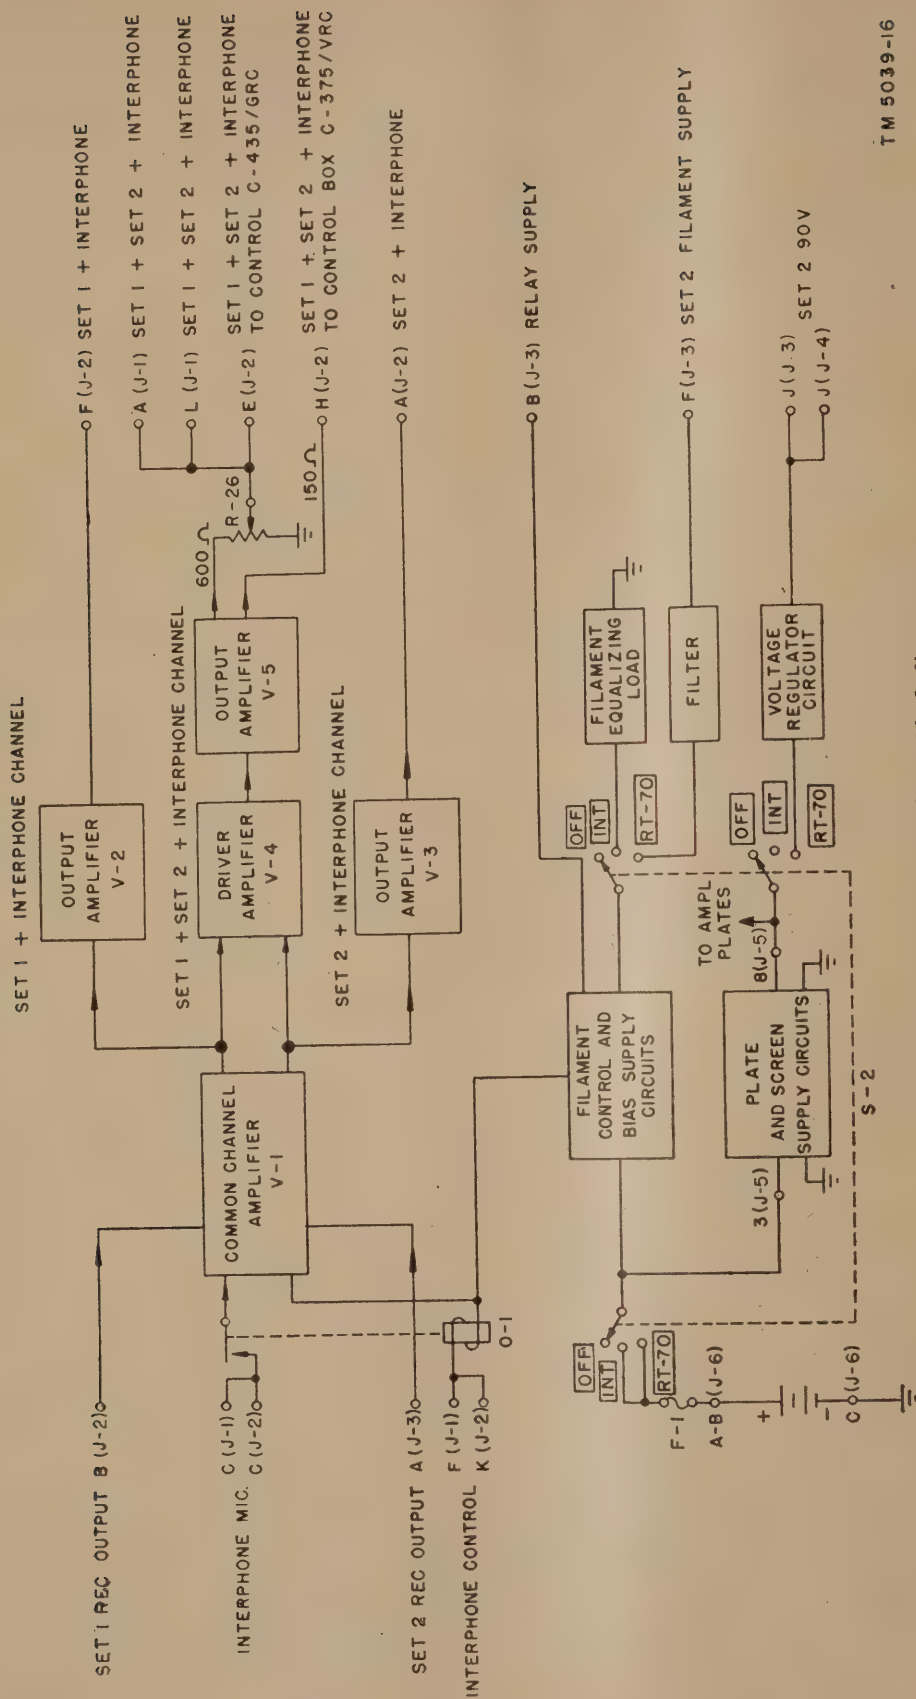

Figure 44. Interphone amplifier, block diagram.
87. Interphone Amplifier (fig. 44)
Figure 44 is a functional block diagram of AF Amplifier AM-65/GRC. The diagram shows the signal and power supply circuits which are provided by the amplifier. The signal circuits consist of three input channels, a common amplifier, and three amplifying paths. The input circuits of the Set 1 and Set 2 channels are arranged to accept signals from the output of the Set 1 and Set 2 receivers, and the input circuit of the interphone channel will accept signals from a microphone. Microphones at Control Box C-375/VRC, at Control C-435/GRC (not used with Radio Sets AN/VRC-20, -21, and -22), and at the panel of the amplifier may be switched into the interphone channel. (Set 2 is not a part of Radio Sets AN/VRC-20, -21, and -22.)